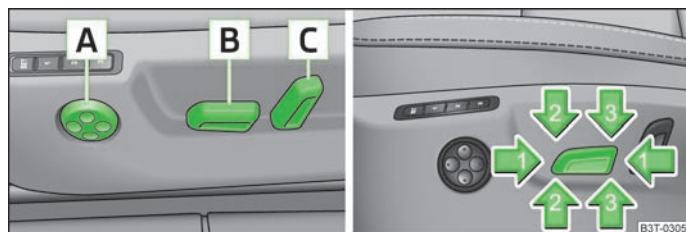

Fig. 55 Controls for the electric seat adjustment
- > Press the switch **B** » Fig. 55 forwards or backwards in the direction of arrow 1.